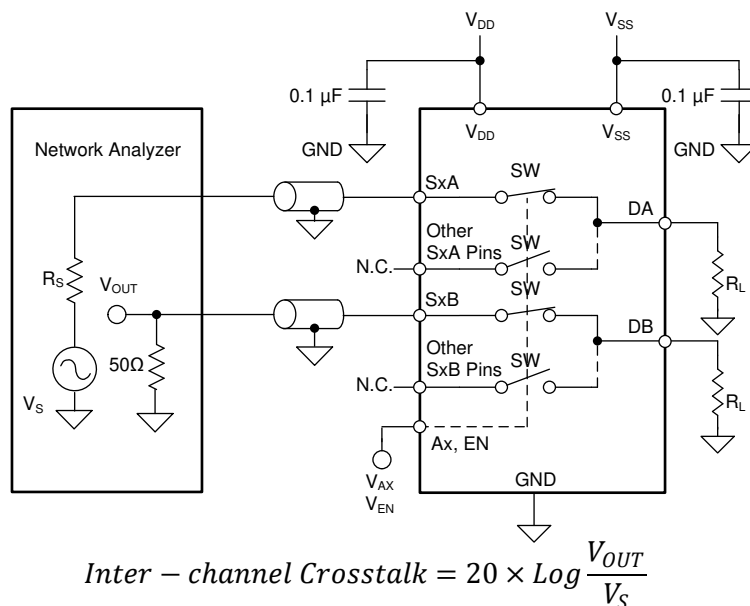

图 8-10. Inter-channel Crosstalk Measurement Setup
2. Inter-channel crosstalk ($X_{TALK(INTER)}$): the voltage at the source pin (S_x) of an on-switch input when a signal is applied at the source pin of an on-switch input in a different channel, as shown in 图 8-10. Inter-channel crosstalk applies only to the TMUX8109 device.